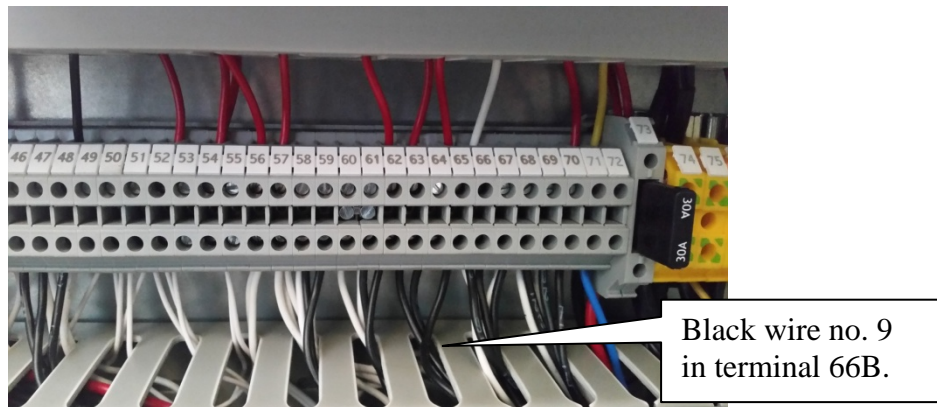

Figure 2: Terminal Strip Row B
Step 5: Remove the black wire no. 9 from Row B Terminal 66 – see Figure 2.